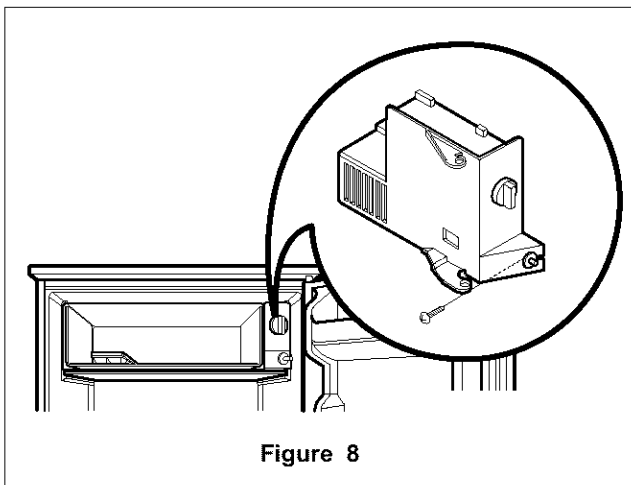

Figure 8
2. Loosen 1 screw holding the case and pull it out to remove the Thermo cover. (Figure 8)